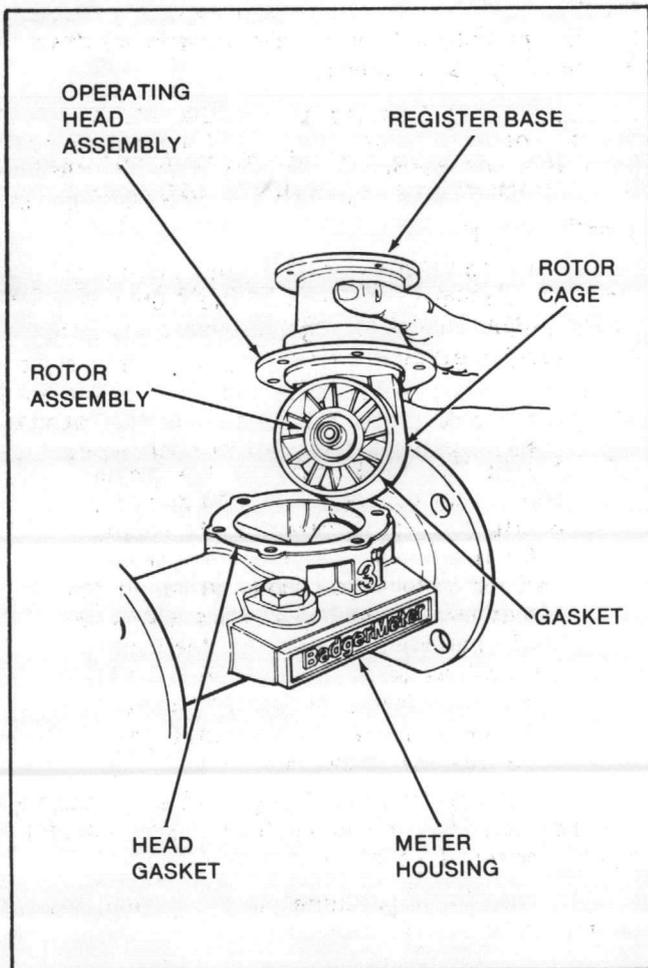

Figure 4-3. Turbo Meters Serviced Without Removal from the Line
1. Do not remove the register base from the operating head assembly. The entire head assembly must be removed as a complete unit (See Figure 4-3).